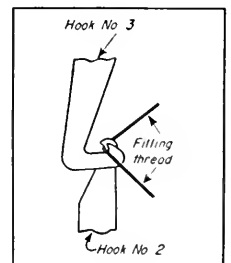

Fig. 6
3. Make a third hook from ¾-in. flat stock, as shown in Fig. 6, and bend it at a 45° angle. Drill two holes in
After all the hooks are placed on the loom, set the magazine for transferring the filling and bring the lay to the front-center position. Then adjust the hooks as shown in Fig. 6.